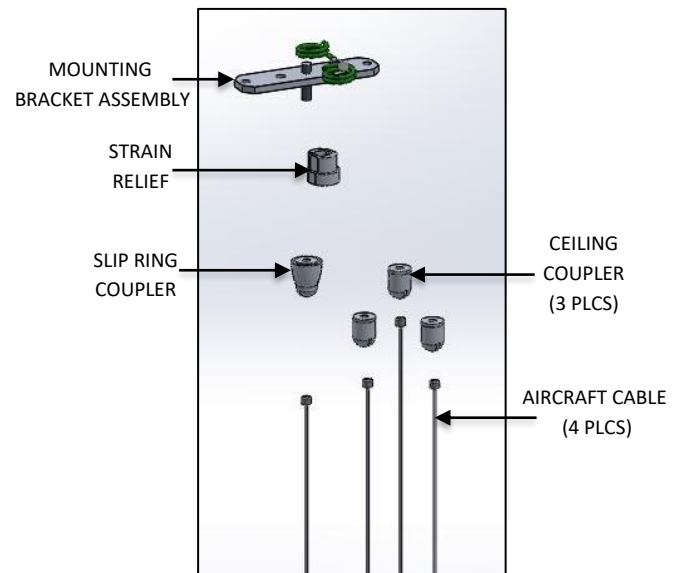

FIG. 5 - MOUNTING KIT CONTENTS
- b. MOUNTING KIT (as shown in FIG. 5)
- iii. THREE (3) CEILING COUPLER (CC)
- iv. FOUR (4) AIRCRAFT CABLE